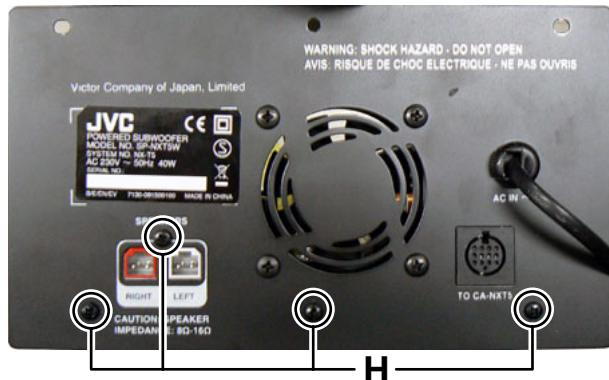

Fig.9
### 3.2.4 Removing the Amp board (See Fig.9, 10)
- (1) Remove the four screws **H** attaching the Back plate. (See Fig.9)